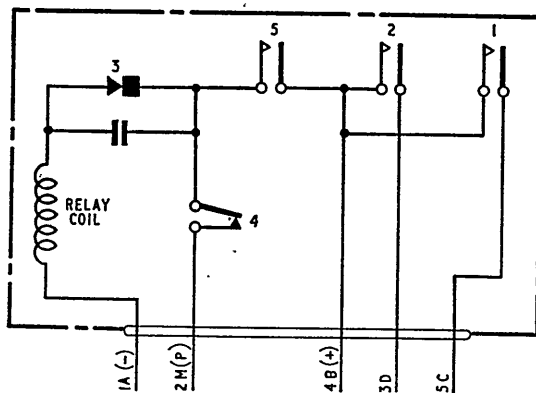

Fig. 3. Typical circuit diagram of switch
5. The circuit diagram (fig. 3) is of a typical D8400 series switch, and shows a unit with two pairs of circuit contacts (1 and 2) in their normally unoperated position. The interrupter contacts 3, the primary contacts 4, and supply contacts 5, control the winding of the spring, while contacts 1 and 2 control separate circuits via the terminal leads B(+), C and D. The interrupter contacts are mounted on the relay and are operated directly by the relay armature. All other contacts are operated by cams mounted on the camshaft. The nominal 24V d.c. supply is connected across M(P) and A(-) via a starter push switch in the pilots or engineers position, and then across B(+) and A(-) when the appropriate cam closes contact 5 and opens contact 4.
6. Upon depressing the starter push switch the relay coil (fig. 3) is energized via contacts 3 and 4. The energized coil then attracts the relay armature to its core. The movement of the armature breaks the coil circuit by opening the interrupter contacts 3. The coil now being de-energized, the armature returns to its previous position under the action of a spring and recloses contacts 3; the armature thus vibrates.